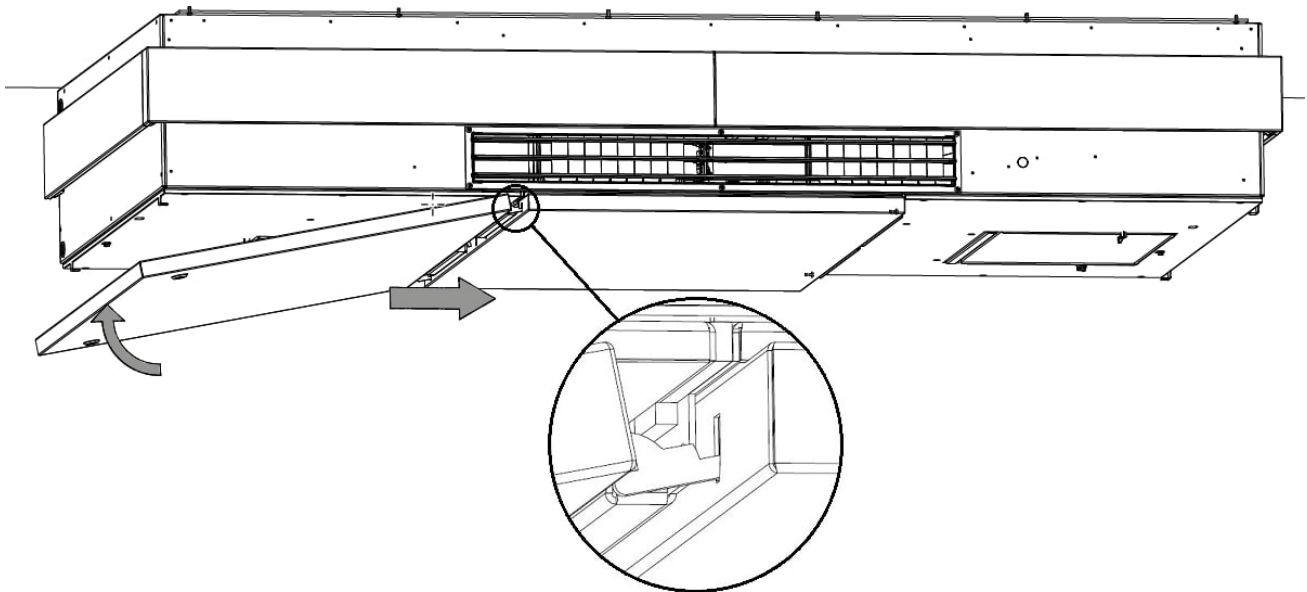

Figure 54: Hinge the left-hand service cover
3. Lift the left-hand service cover and hinge it onto the middle plate, see Figure 54 below.